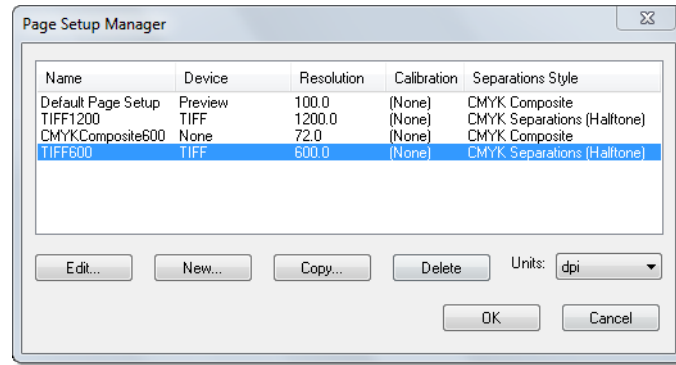

Figure 3.1 Page Setup Manager dialog box
2. In the Page Setup Manager, as shown in Figure 3.1, select a Page Setup. Default Page Setup is a safe choice: select it and click **Edit** to display the Edit Page Setup dialog box. If you want to create a new Page Setup, the easiest way is to copy the Default Page Setup. Select Default Page Setup and click **Copy** to display the New Page Setup dialog box.